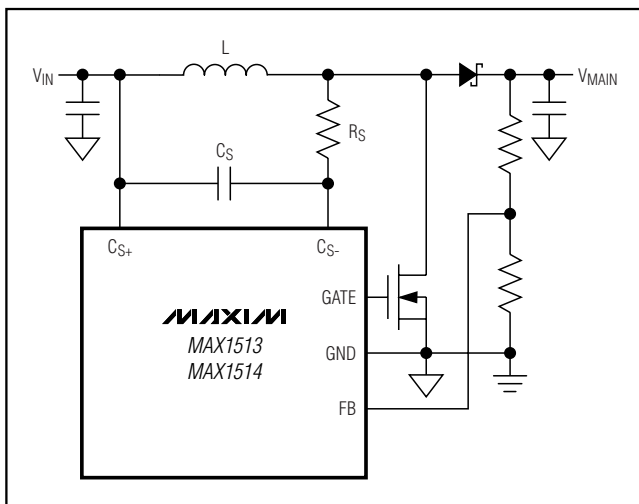
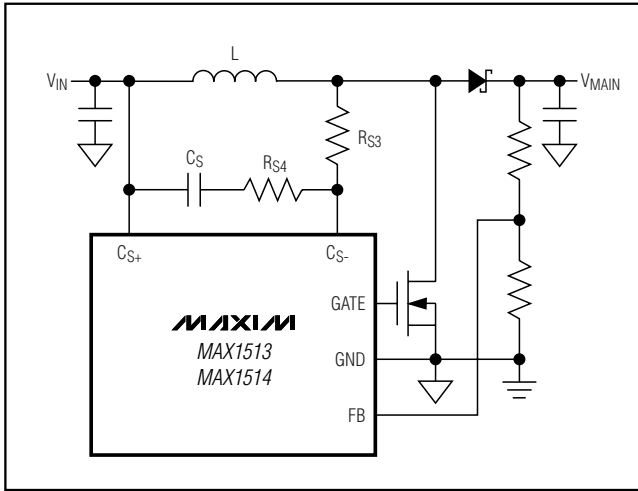

Figure 8. Lossless Current Sensing with 80mV < V_{SENSE} < 100mV
Figure 10. Lossless Current Sensing with $V_{SENSE} < 80\text{mV}$
4) Compare the calculated sense voltage with the minimum value of the current-limit threshold in the *Electrical Characteristics* (100mV). If the sense voltage is between 80mV and 100mV, use the current-sense configuration in Figure 8 with the calculated C_S and R_S above.
6) If V_{SENSE} is less than 80mV, the current-feedback signal is low relative to the current-limit threshold. Use the Figure 8 configuration, or, if good current-limit accuracy is desired, use the optional current-sense configuration in Figure 10 to increase the amplitude of the sense signal. Calculate R_{S3} and R_{S4} :
Because V_{SENSE} would be between 80mV and 100mV, the circuit in Figure 8 should be used. The closest 1% standard value for R_S is 909Ω.
Because V_{SENSE} would be much less than 80mV, the circuit in Figure 10 can be used to improve the current-limit accuracy. Calculate R_{S3} and R_{S4} :